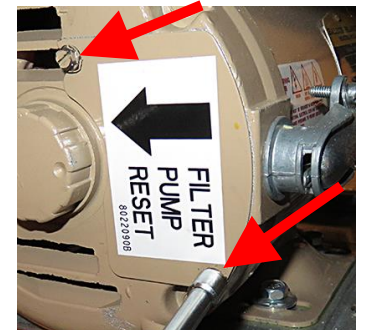

Figure 51
49. Remove the two (2) screws attaching the electrical cover plate to the filter pump motor (see Figure 51).